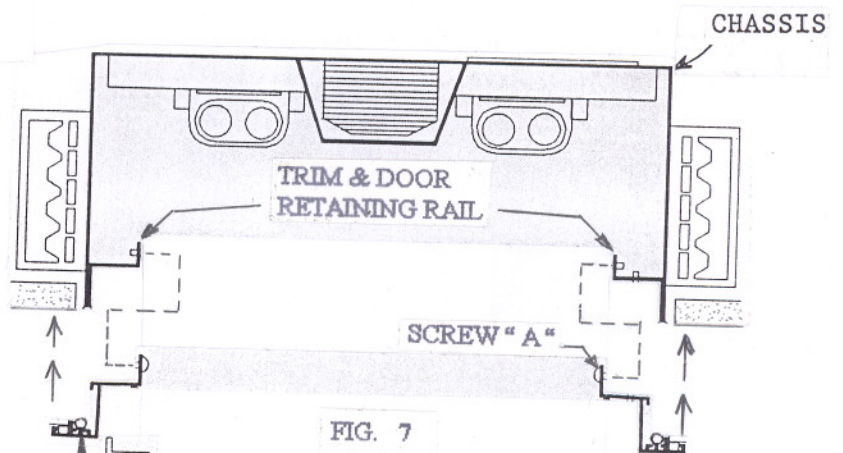

FIG. 7
D. INSTALLATION OF TRIM AND DOOR ASSEMBLY (FIG. 7 & 8)